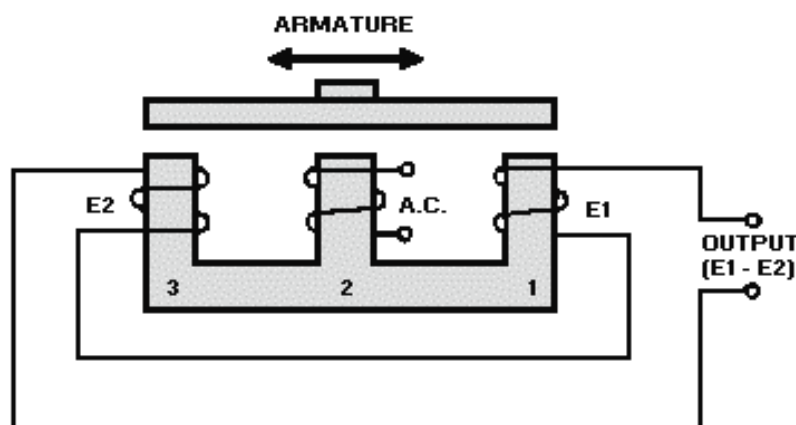

Figure 2-14.—Basic-E transformer.
In the basic E-transformer shown in figure 2-14, an ac voltage is applied to the primary coil (2) located on the center leg of the laminated, E-shaped core. Two secondary coils (1 and 3) are wound series-opposing on the outer poles of the core. The magnetic coupling between the primary (coil 2) and the two secondaries varies with the position of the armature. The armature can be physically moved left or right in the magnetic circuit by mechanical linkage to the load. This changes the reluctance between either pole and the armature.